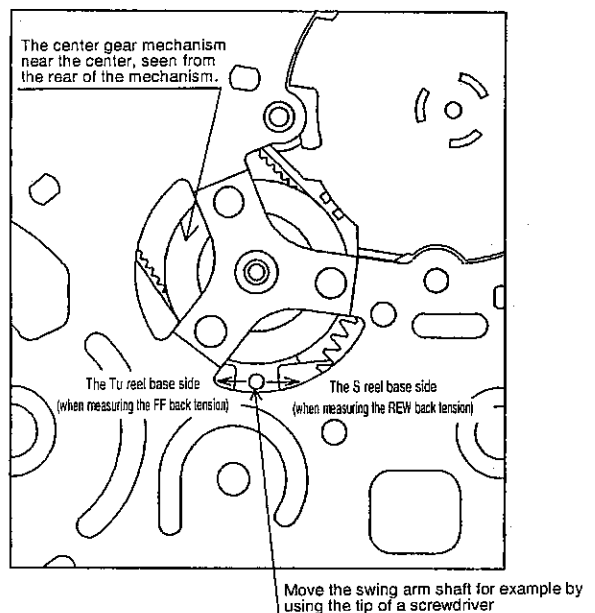

Fig. 7. The swing arm shaft position (seen from the rear of the mechanism) when measuring the FF • REW back tension.
- (1) Remove the cassette control assembly, then apply DC3V to the loading motor and put the system into FF mode (refer to 9-1).
- (2) Turn the mechanism over, then move the swing arm to the Tu reel base side, for example by using the tip of a screwdriver (refer to Fig. 7).
- (3) Set a back tension measurement reel hub on the S reel base.
- (4) Using a dial tension gauge, pull the string in the A direction, then confirm that the tension is within the standard.
- (1) Remove the cassette control assembly, then apply DC3V to the loading motor and put the system into REW mode (refer to 9-1).
- (2) Referring to 9-3 (3) thru (5), insert thick paper, then release the DOWN switch and the Tu lock release lever.
- (3) Turn the mechanism over, then move the swing arm toward the S reel base side, using for example the tip of a screwdriver (see Fig. 7).
- (4) Set a back tension measurement reel hub on the Tu reel base.
- (5) Using a dial tension gauge, pull the string in the A direction, then confirm that the tension is within the standard.
- (6) Remove the paper that was inserted in (2).
- (1) Remove the cassette control assembly, then apply DC3V to the loading motor and put the system into standby mode (refer to 9-1).
- (2) Referring to 9-3 (3) thru (5), insert thick paper, and release the DOWN switch and the Tu lock release lever.
- (3) Turn the mechanism over, then move the swing arm to the S reel base side, for example with the tip of a screwdriver (see Fig. 7).
- (5) With the dial tension gauge, pull the string in the A direction and confirm that the tension is within the standard. (If the tension fluctuates, read the center value.)